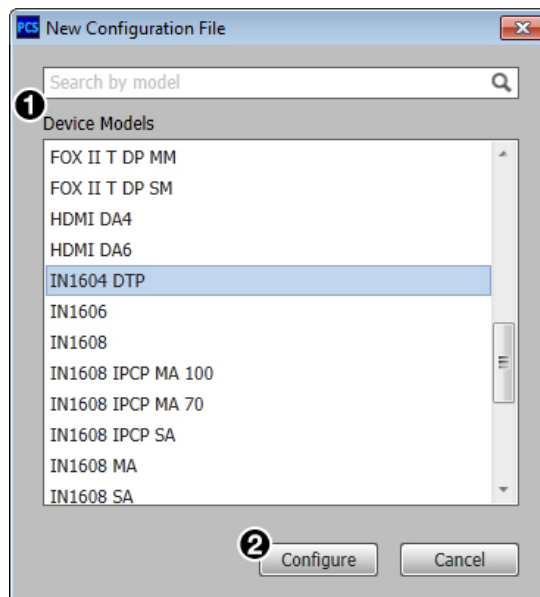

Figure 26. New Configuration File Dialog Box (IN1604 DTP Selected)
2. Select the desired device model from the Device Models list (see figure 26, ①).
3. Click the **Configure** button (see figure 26, ②). A new offline device configuration tab opens. An offline device is noted by the gray indicator (an online device has a green indicator) on the left of the device tab.